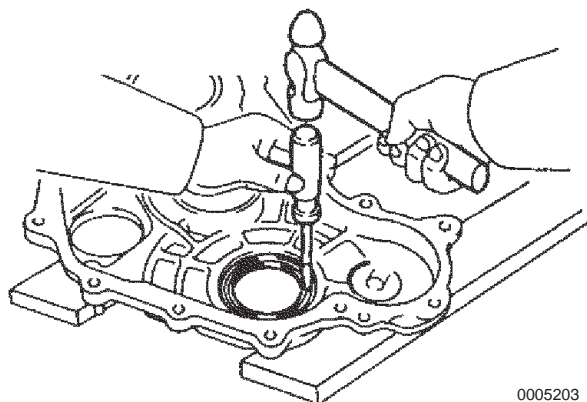

Figure 5-203
1. Tap out the oil seal using a screwdriver and hammer (**Figure 5-203**).